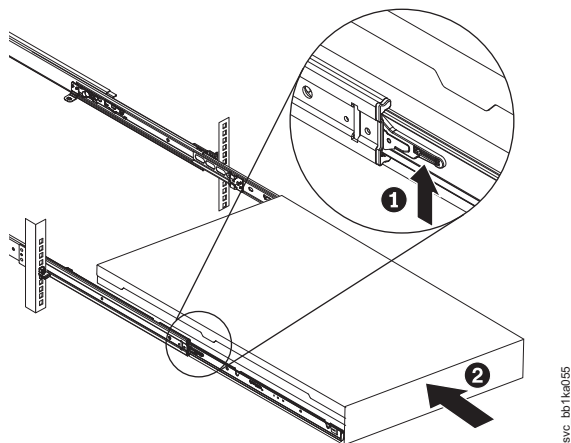

Figure 69. Raising the locking levers of the slide rails of the rack
8. Lift the locking levers (**1** in Figure 69) on the slide rails and push the server **2** all the way into the rack until it clicks into place.